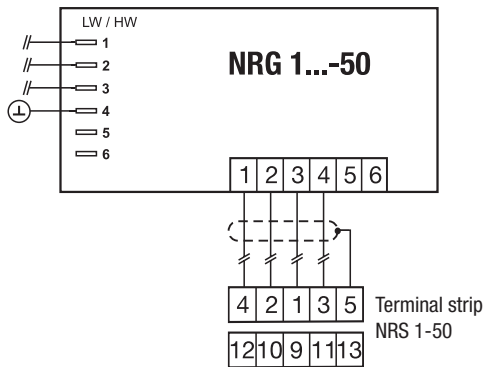

Fig. 25 Wiring of level electrode with aluminium terminal box
4. Connect terminal strip according to the wiring diagram. **Fig. 25**